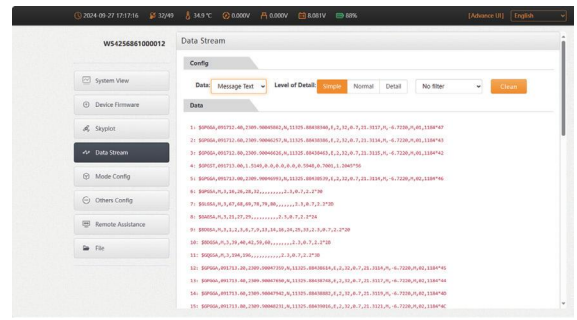

Figure 2.4-2
1. Message Text: see 2.10 in this Section for the configuration of message text, and the output is shown in Figure 2.4-2: